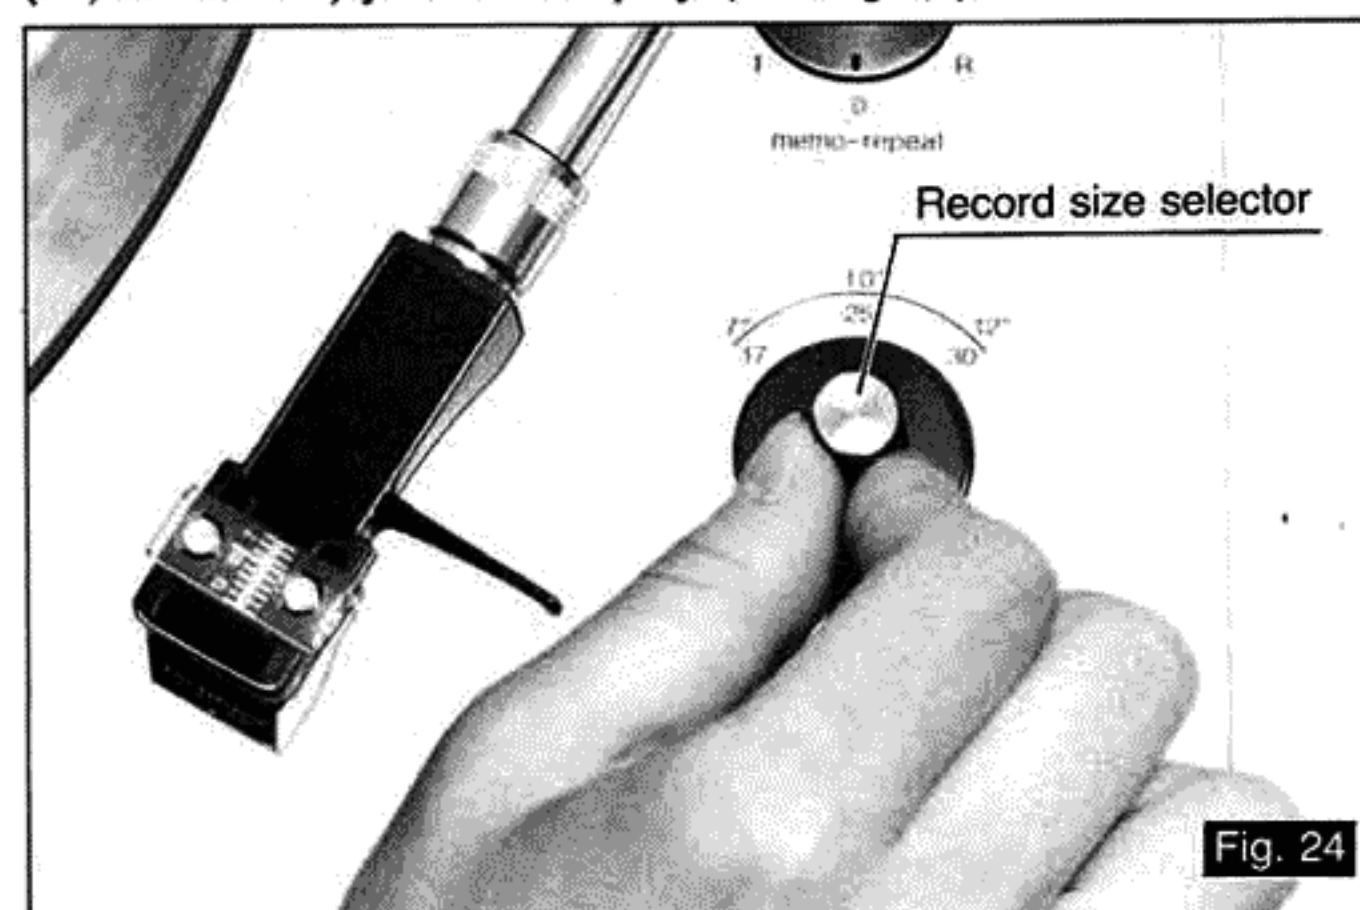

Fig. 24
- 4 Set the record size selector to the diameter of the record (7", 10" or 12") you wish to play. (See Fig. 24).